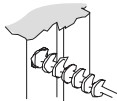

Figure 4b
- Drill 1" (25mm) hole 1-3/16" (30mm) deep in door jamb on center mark (Figure 4b).
- Using two 5/16" (8mm) screws and one 1-3/8" (35mm) screw, attach the Interior Assembly to the Mounting Plate. **DO NOT OVER TIGHTEN SCREWS** (Figure 4b).